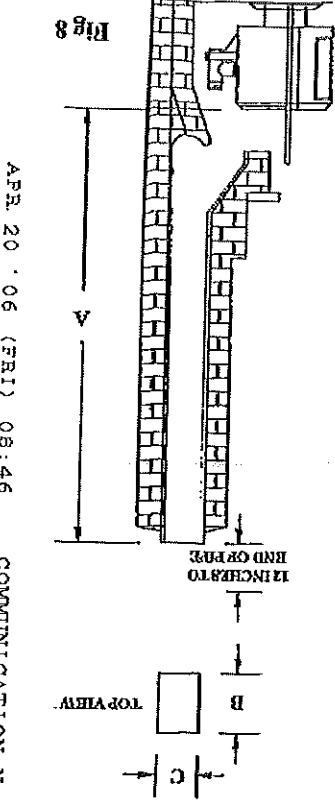

Figure 8
3. Measure and record the dimensions as shown in Figure 8.